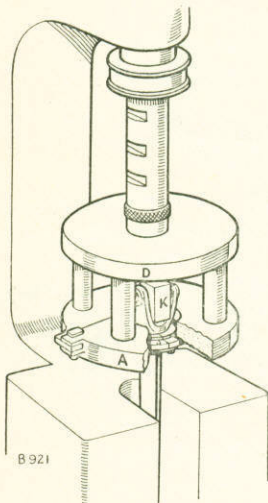

Fig. F-24—Stripping the half shaft.
3. LATE TYPE AXLES ONLY. Stand the half shaft on its splined end and press down squarely on the conical distance piece, using press blocks, A, D, J and K (Part No. 245178) (Fig. F-24).